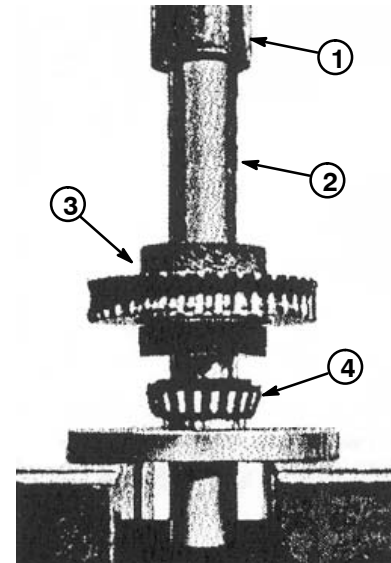

Figure 19
3. If worm gear and bearing cones were removed from output shaft, fit key into output shaft and position gear to shaft. Press gear onto shaft until the gear is centered on the key (Fig. 19). Pressing on the inner bearing race, install bearing cones until they are tight against the gear.
B. Install both open caps (item 14) (o-ring and seal not installed on cap) to gearbox housing. Torque cap screws 8 ft-lb (10.8 N-m) while checking for binding of shaft. If shaft binds as screws are tightened, add additional shims.